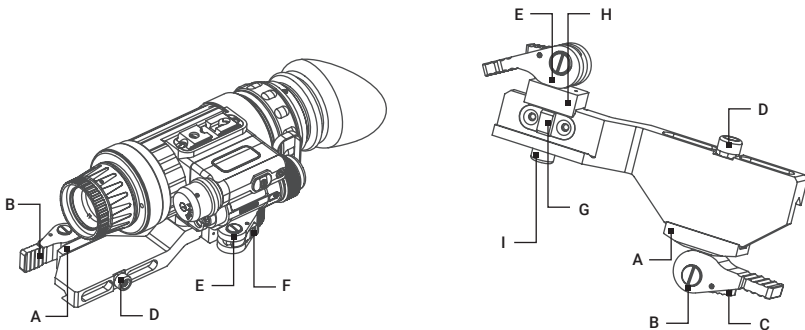

FIGURE 2-4. QUICK-RELEASE WEAPON MOUNT
To mount the Wolf 14 to a weapon using an optional quick-release weapon mount (QRWM), perform the following (refer to Figure 2-4):
1. While pushing down on the lever holder (C), turn the lever (B) backwards to loosen the QRWM clamping device (A).
2. Install the QRWM on the weapon rail by inserting the stop (not shown in Figure 2-4) into one of transverse slots of the weapon rail.
3. To secure the QRWM onto the weapon rail, turn the lever (B) forward. Secure the clamping device (A) tightly to the weapon rail. To adjust the force of the lever clamp, loosen or tighten the nut (D) as necessary.
4. While pushing down on the lever holder (F), turn the lever (E) forward.
5. Install the Wolf 14 on the QRWM rail by inserting the stop (G) into the transverse slot of the unit rail.
6. Attach the Wolf 14 to the QRWM rail by turning the lever (E) backwards. Secure the QRWM clamping device (H) tightly to the Wolf 14 rail. To adjust the force of the lever clamp, loosen or tighten the nut (I) as necessary.